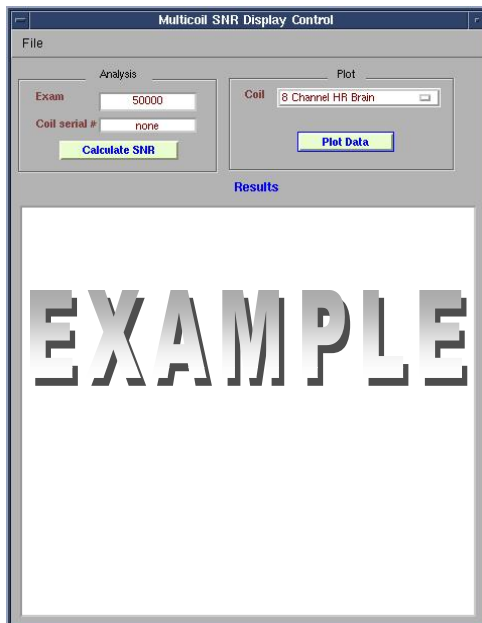

Figure 12: Multicoil SNR Display Control window.
Step 2 – Select the [FileTab] in the now open Multicoil SNR Display Control window (see Figure 12).